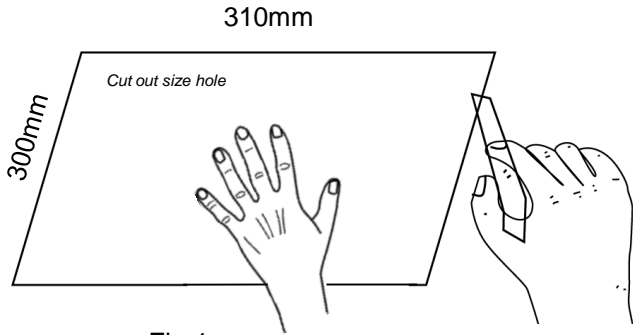

Fig.1
- 1) The recommended height of the installation is 2.4m. Before commencing installation remove the heat globes from the unit to prevent breakages. Before commencing cutting ensure that the area behind the intended location is clear of all cables, pipes and joists. Use the card provided as a template to mark the 'cut out hole' on the ceiling. The cut out hole size is 310mm x 300mm, ( Fig. 1) Once clear, cut out the section along the marked lines. The unit is mounted using the inbuilt clip fasteners.